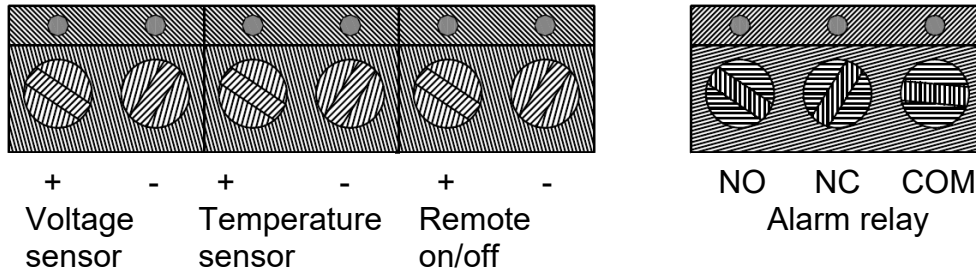

Figure 5. Connector block
2.3.1. External voltage sensor (see fig 5)
2.3.2. External temperature sensor (see fig 5)
2.3.3. Remote on/off (see fig 5)
2.3.4. Alarm relay connections (see fig 5)